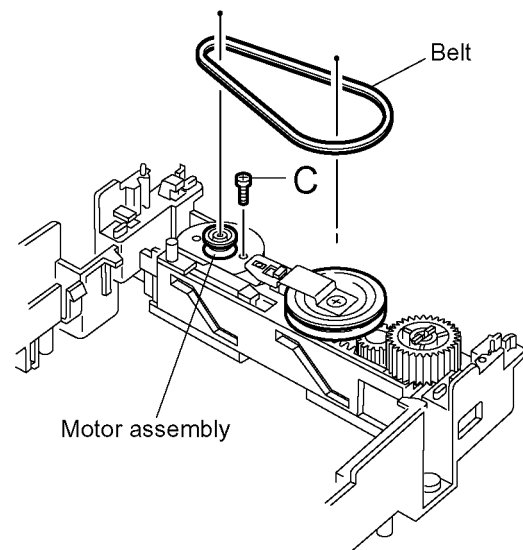

Fig.7
3.1.5 Removing the motor assembly (See Fig.7 and 8)